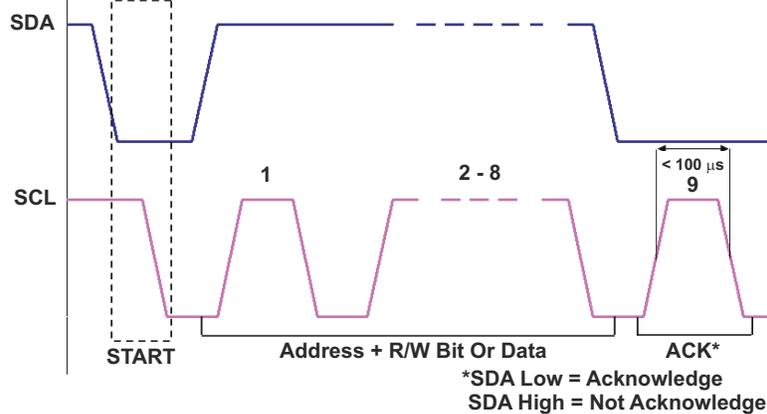

Figure 5-6. Acknowledge Bit Requirements
- Acknowledge bit (Figure 5-6): Acknowledge (ACK) or no-acknowledge (NACK) occurs on the ninth rising edge of SCL during each byte. After ACK or NACK, SCL must fall within 100 μ s of SCL rising.